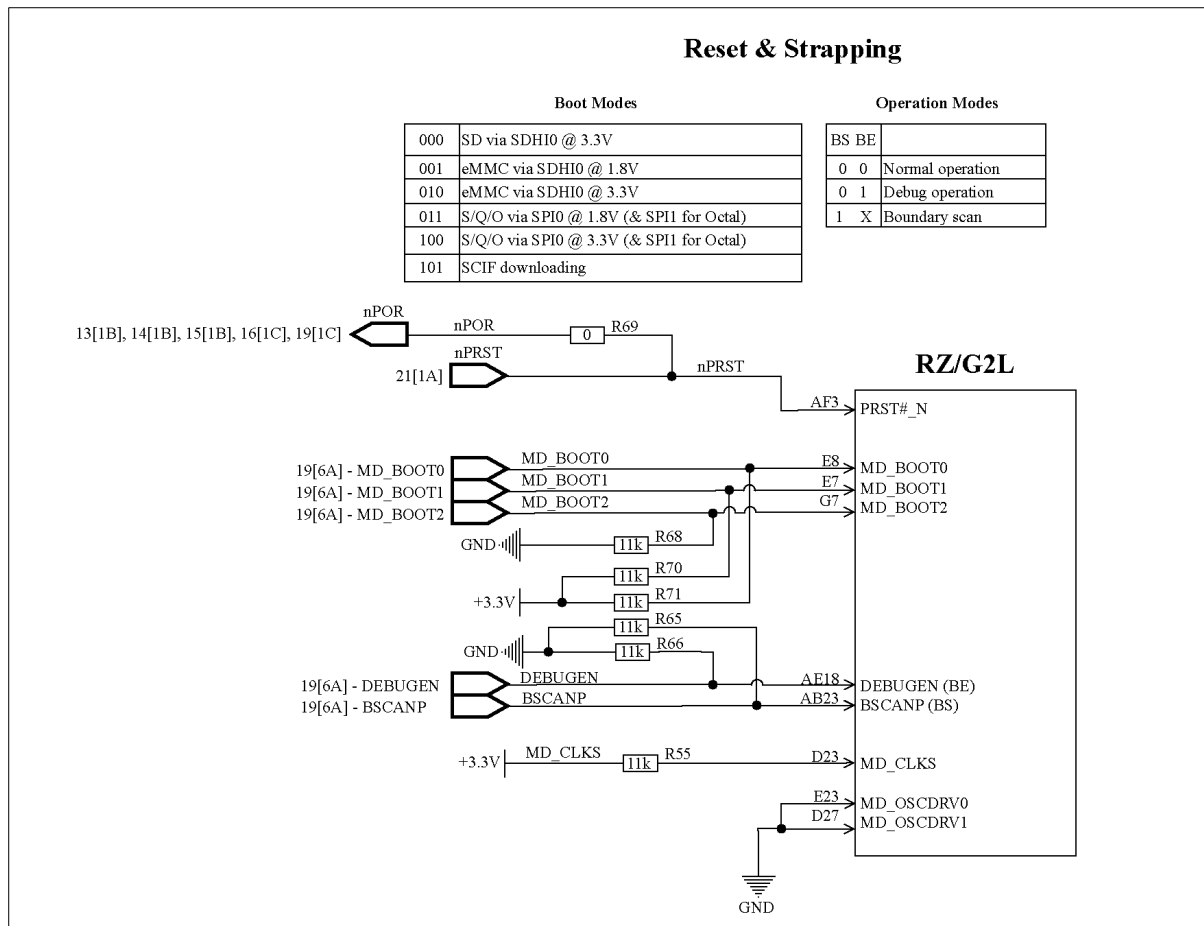

Figure 135. Reset Control Logic
In addition to the boot order, the SoC has two more lines: DEBUGEN (BE) & BSCANP (BS). These lines control the boot mode, which can be JTAG boundary scan or debug mode. Figure 135. **Reset Control Logic**